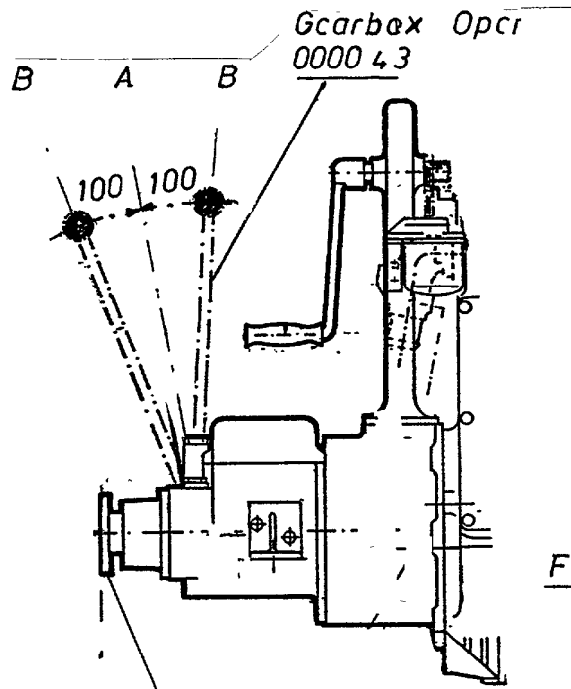

Fig. 1
- 1) Engage Gearbox Oper. Lever to Astern Pos. B (Measure A - B are Approx. 100 mm), Fig. 1.